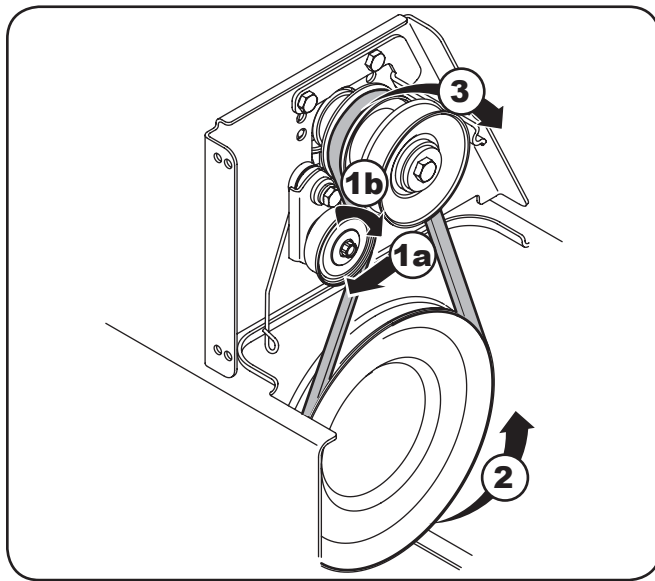

Figure 7-8
1. Use a wrench to rotate the idler pulley away from the backside of the drive belt to relieve the tension and slip the drive belt off the idler pulley. Carefully release the idler pulley. See Figure 7-8.